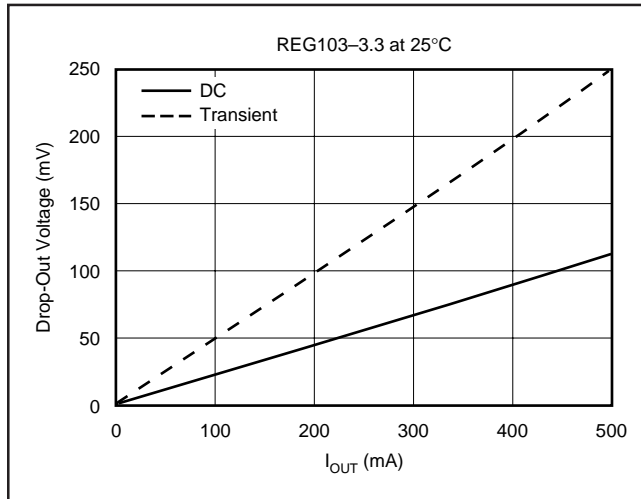

FIGURE 10. Transient and DC Dropout.
The REG103 uses an N-channel DMOS as the “pass” element. When the input voltage is within a few hundred millivolts of the output voltage, the DMOS device behaves like a resistor. Therefore, for low values of  $V_{IN}$  to  $V_{OUT}$ , the regulator’s input-to-output resistance is the  $R_{DS(ON)}$  of the DMOS pass element (typically 230mΩ). For static (DC) loads, the REG103 will typically maintain regulation down to  $V_{IN}$  to  $V_{OUT}$  voltage drop of 115mV at full-rated output current. In Figure 10, the bottom line (DC dropout) shows the minimum  $V_{IN}$  to  $V_{OUT}$  voltage drop required to prevent drop-out under DC load conditions.
For large step changes in load current, the REG103 requires a larger voltage drop across it to avoid degraded transient response. The boundary of this “transient drop-out” region is shown as the top line in Figure 10. Values of  $V_{IN}$  to  $V_{OUT}$  voltage drop above this line insure normal transient response.